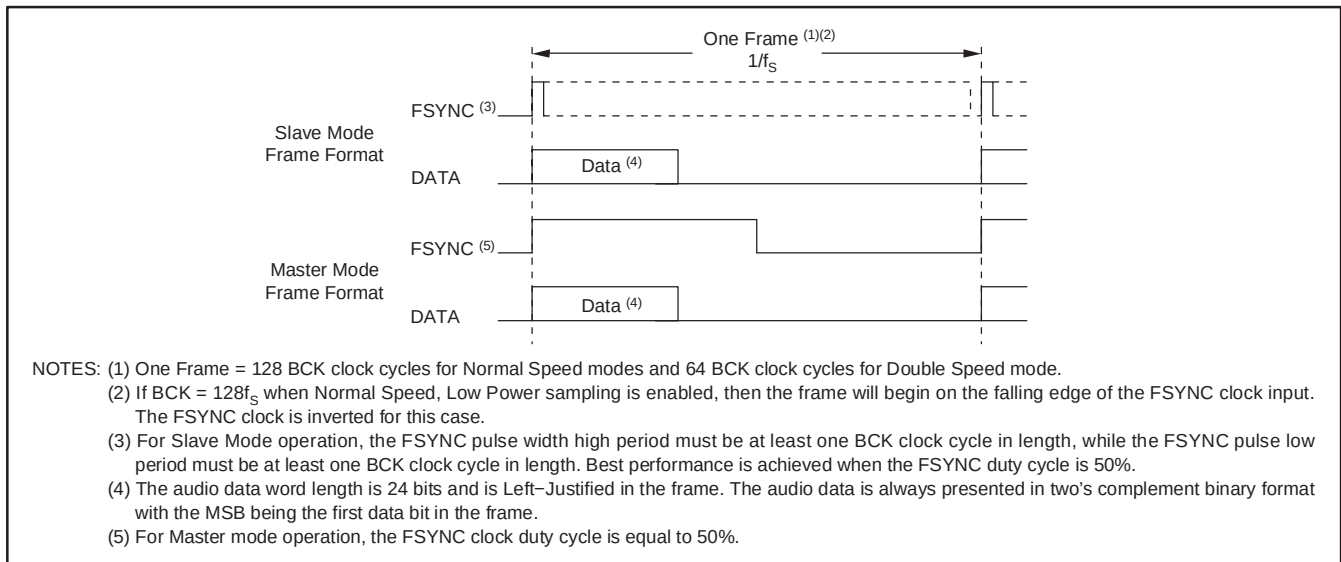
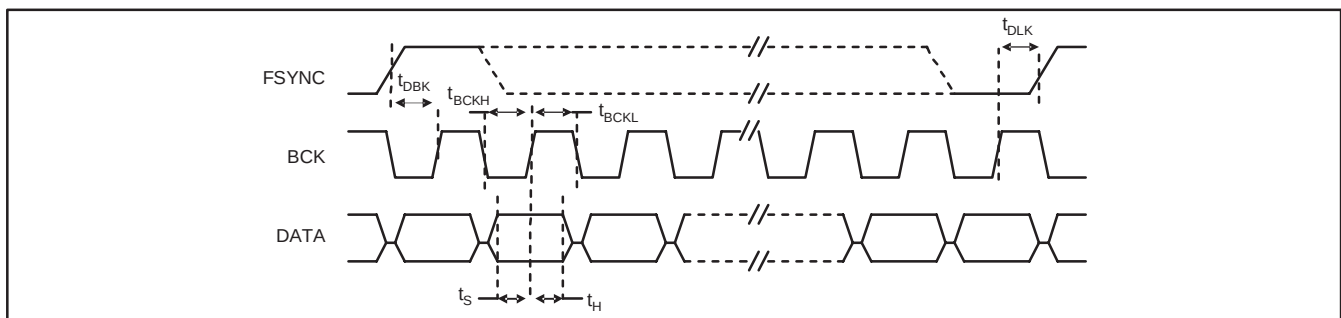
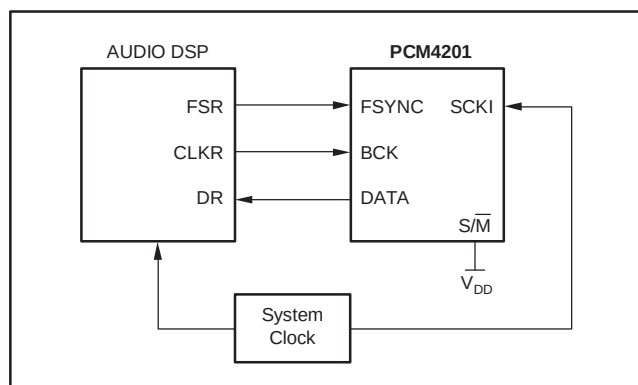

Figure 3. Audio Serial-Port Frame Format
Figure 4. Audio Serial-Port Timing
Figure 5. PCM4201 Slave Mode Configuration
The PCM4201 audio serial port is a 3-wire synchronous serial interface comprised of the audio serial data output, DATA (pin 9); a frame synchronization clock, FSYNC (pin 10); and a bit or data clock, BCK (pin 11). The FSYNC and BCK clocks may be either inputs or outputs, supporting either Slave or Master mode interfaces, respectively. The audio data format is 24-bit linear PCM, represented as two's complement binary data with the MSB being the first data bit in the frame. Figure 3 illustrates the audio frame format, while Figure 4 and the Electrical Characteristics table highlight the important timing parameters for the audio serial port interface.
Slave mode operation requires that the FSYNC and BCK clocks be generated from an external audio processor or master timing generator, as shown in Figure 5. Both clocks are inputs in Slave mode. The FSYNC clock rate is the equal to the desired output sampling frequency, f_s . The FSYNC high pulse width must be equal to at least one BCK clock period. The BCK clock rate should be $128f_s$ for Normal Speed, High Performance sampling mode. A BCK rate equal to $64f_s$ results in no output for this sampling mode. For Normal Speed, Low Power sampling mode, the BCK rate may be $64f_s$ or $128f_s$. See Note (2) in Figure 3 regarding the FSYNC edge used for start of frame when BCK = $128f_s$ for this sampling mode. For Double Speed sampling mode, the BCK rate should be $64f_s$.
Changed order of notes in Figure 3 to accommodate new Note (2).